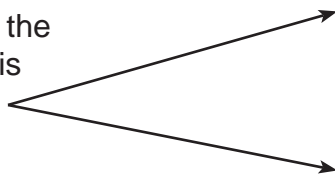

Figure 2
3. Using a Phillips screwdriver, remove the two screws that secure the coin return assembly to the door. (Refer to Figure 2.) Remove the coin return assembly.